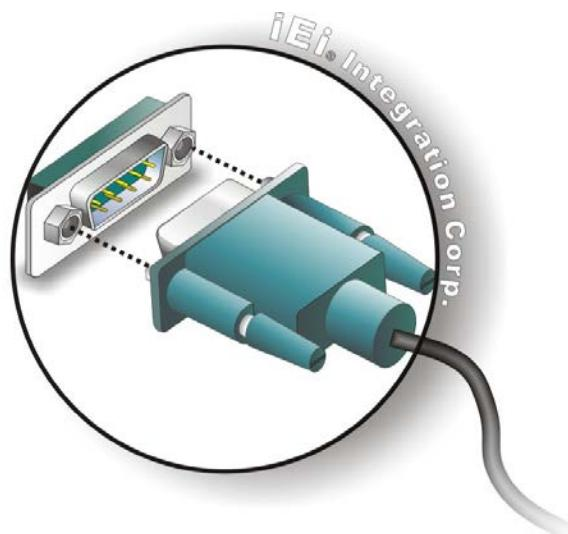

Figure 3-22: Serial Device Connector
**Step 2:** **Insert the serial connector.** Insert the DB-9 connector of a serial device into the DB-9 connector on the external peripheral interface. See **Figure 3-22**.